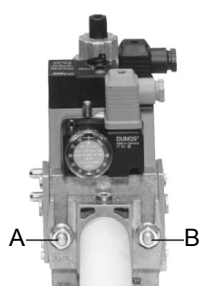
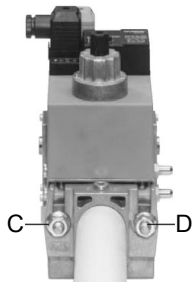
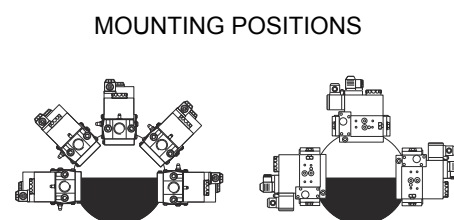

Fig. 3
Fig. 4
Fig. 6
3. tighten screws A, B, C and D (Fig. 3 - Fig. 4), according to the mounting positions (Fig. 6);
1-b) in case of flanged joints: place a gasket (no. 1A..1E - Fig. 4) between the elements;
**ATTENTION:** once the gas train is mounted according to the diagram on Fig. 4, the gas proving test must be performed, according to the procedure set by the laws in force.